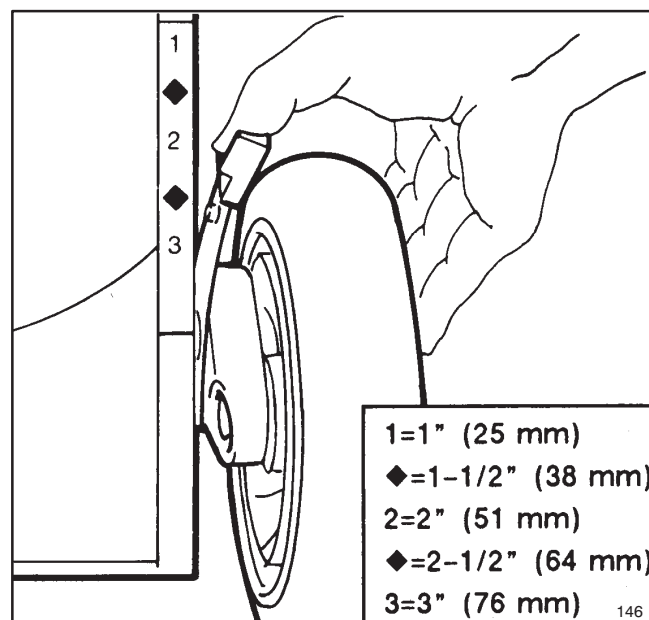

Figure 15
2. For easier adjustment, lift housing up so wheel is off ground. **Do not place hands under deck to lift housing.** Squeeze adjusting lever toward wheel and move to desired setting (Fig. 15). Ensure pin on adjusting lever engages notch in housing. Adjust all wheels to the same setting.